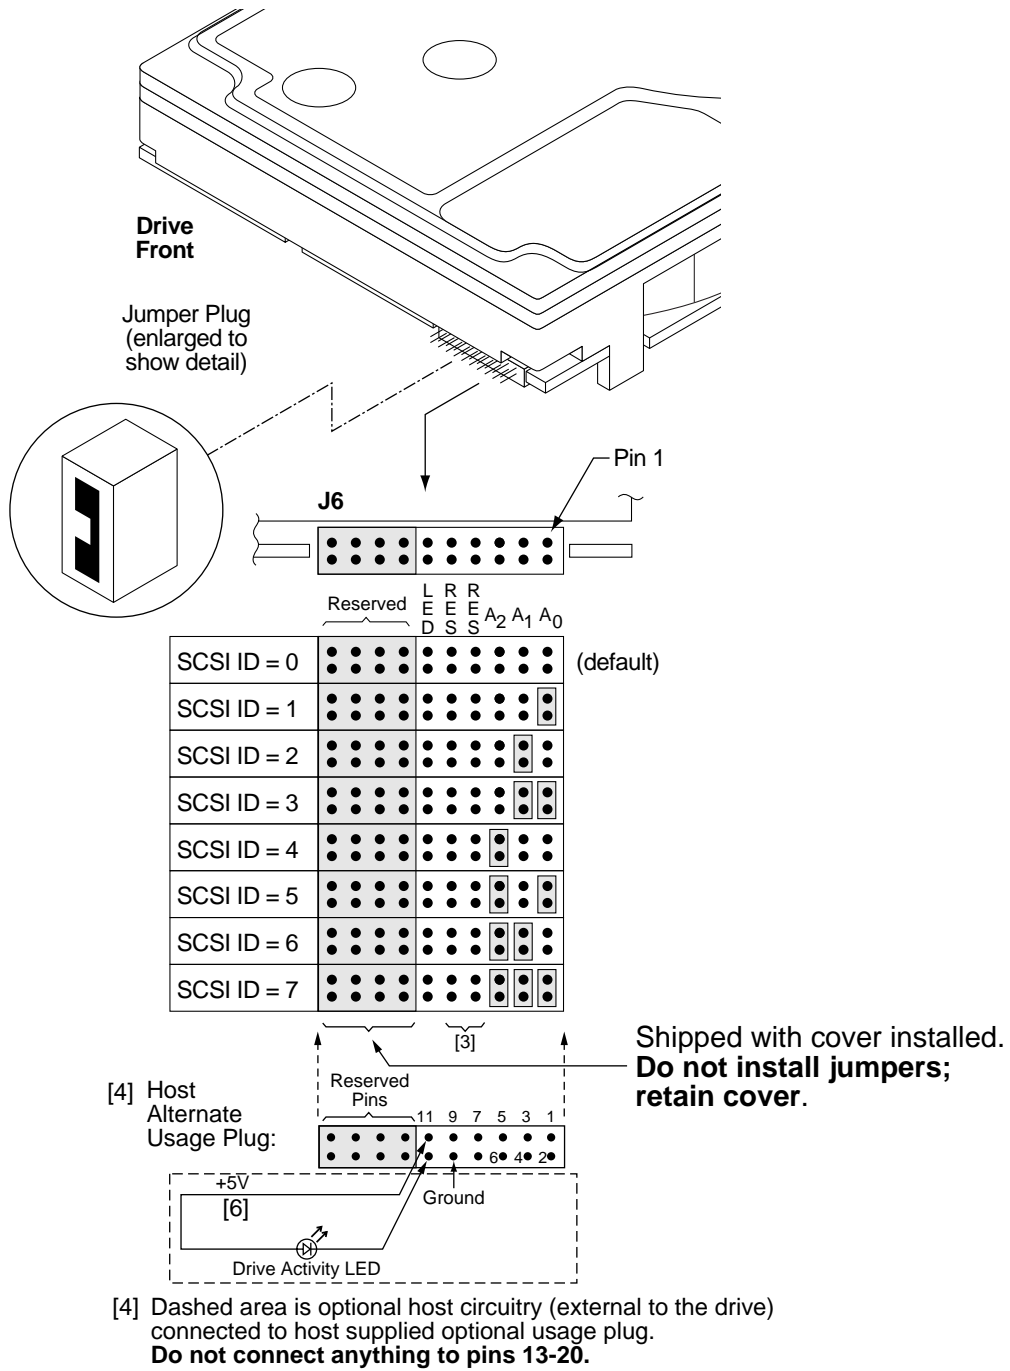
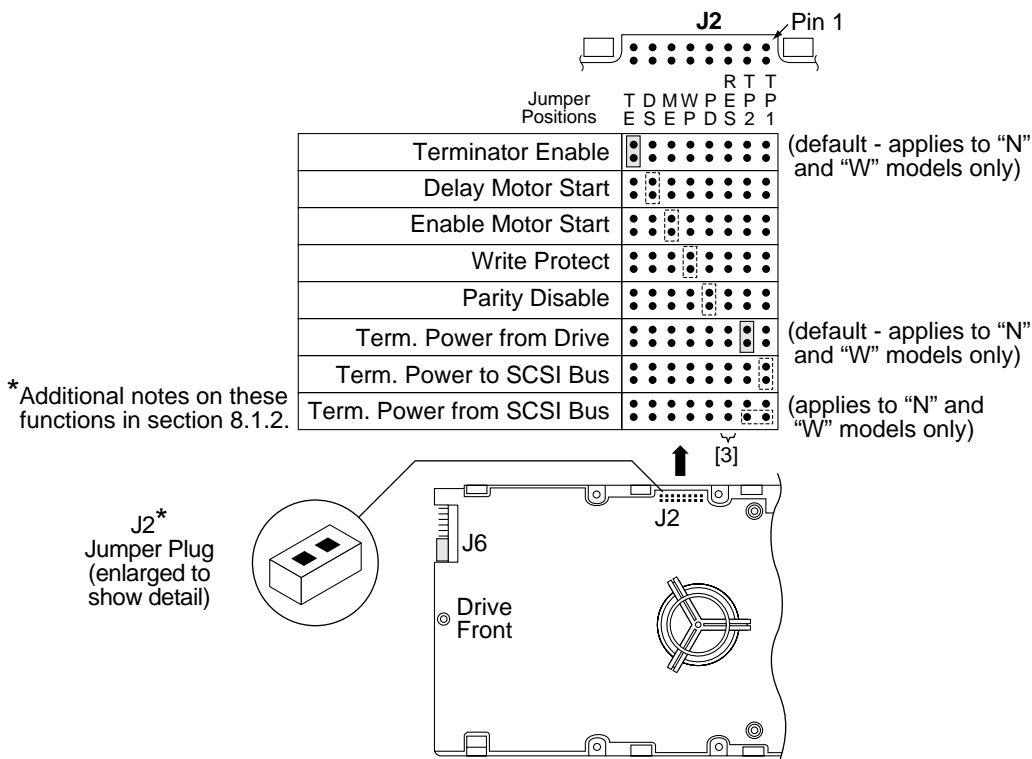

Figure 7a. Barracuda 9LP family drive ID select header for models “N”
Figure 7d. Barracuda 9LP family drive option select header for models "N," "W," and "WD"
For option jumper locations and definitions refer to Figures 7a, 7b, 7c, 7d, 7e, and 7f. Drive default mode parameters are not normally needed for installation. Refer to Section 9.3.2 for default mode parameters if they are needed.
Figures 7a through 7c show views of the drive ID select jumper connectors. Figure 7d shows the option select jumper connector for all models. Figure 7b shows a rear view of model drives for the purpose of showing J1-auxiliary of the drive. Both J1-auxiliary and J6 have pins for selecting drive ID and for connecting the remote LED cable. Only one or the other should be used, although using both at the same time would not damage the drive. The notes following the figures describe the functions of the various jumper positions on the connectors J2, J1-Auxiliary and J6. Suggested part number for the jumpers used on J2 is 3M part number 956562-30 (Seagate part number 89501860). A bag with the two jumper plug types is shipped with the standard OEM drives.
Notes for Figures 7a through 7f are in Section 8.1.1.
8.1.1 Notes for Figures 7a, 7b, 7c, 7d, 7e, and 7f.
*See Figure 7d for pins used for Termpower.